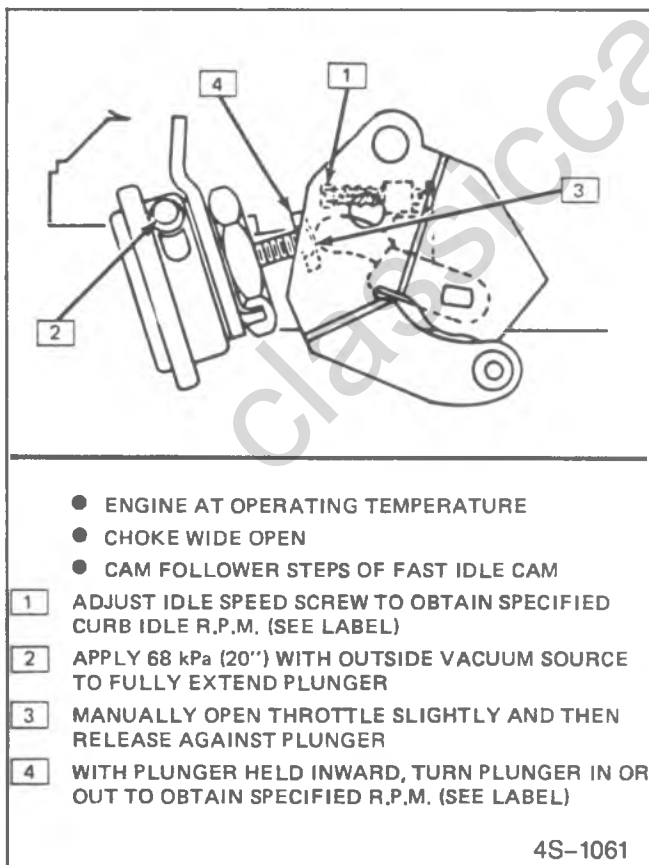

Figure 39—Throttle Lever Actuator Adjustment
- g. If the engine rpm noted in Step 3 is not within the specified TRC speed range, the TRC actuator must be adjusted. Refer to figure 39 and Vehicle Emission Control Information label for adjustment of the throttle lever actuator.